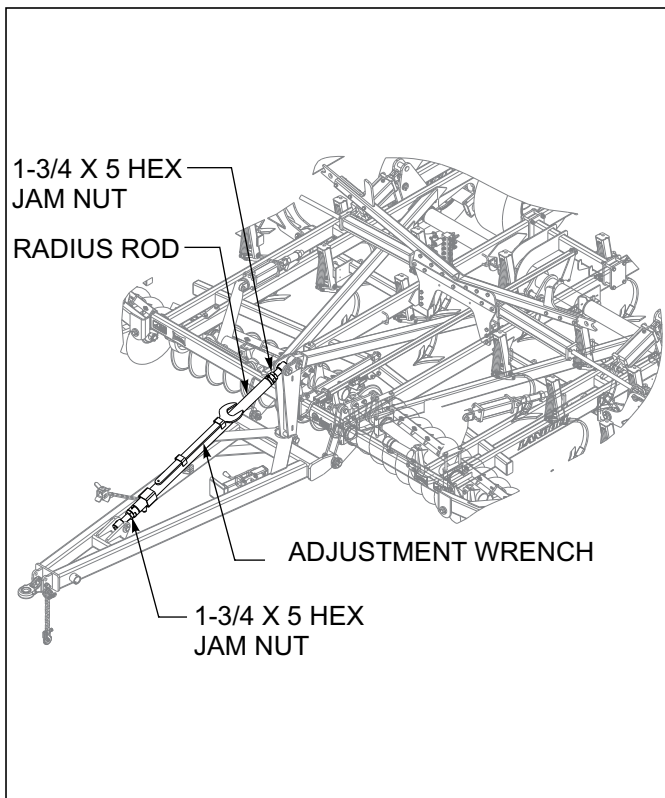

Figure 4-13: Radius Rod Adjustment
1. The Finisholl hitch is fully adjustable for height so the implement may be set to operate level from front-to-rear. This will insure the sweeps run level, and have an even working depth across the implement. Height may be adjusted for various tractor drawbar heights, operating depth, attachments, etc. To adjust the Finisholl hitch height, loosen the locking jam nuts on each end of the adjustable radius rod located above the hitch (See **Figure 4-13.**) Wrenches are stored on the center frame and radius rod to make this adjustment. Extend or retract the radius rod to obtain the desired hitch height.